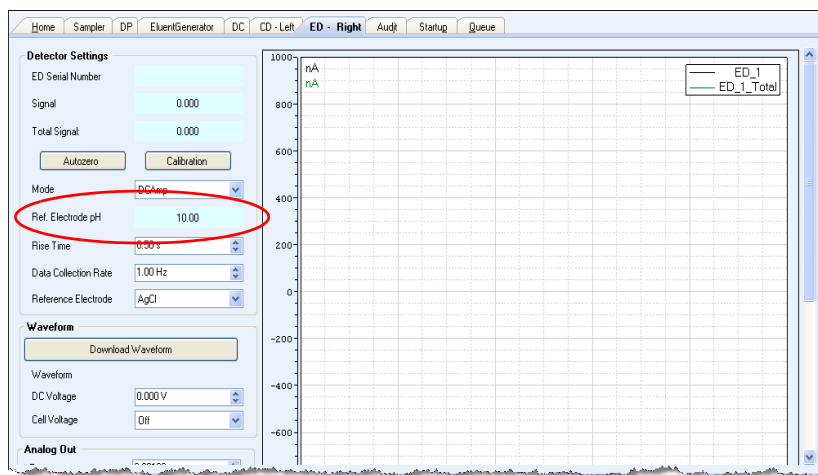

Figure 4-1. Monitoring the pH-Ag/AgCl Reference Electrode pH
2. When you run your first chromatographic instrument method, note the pH value displayed on the Chromeleon ePanel (see Figure 4-1).